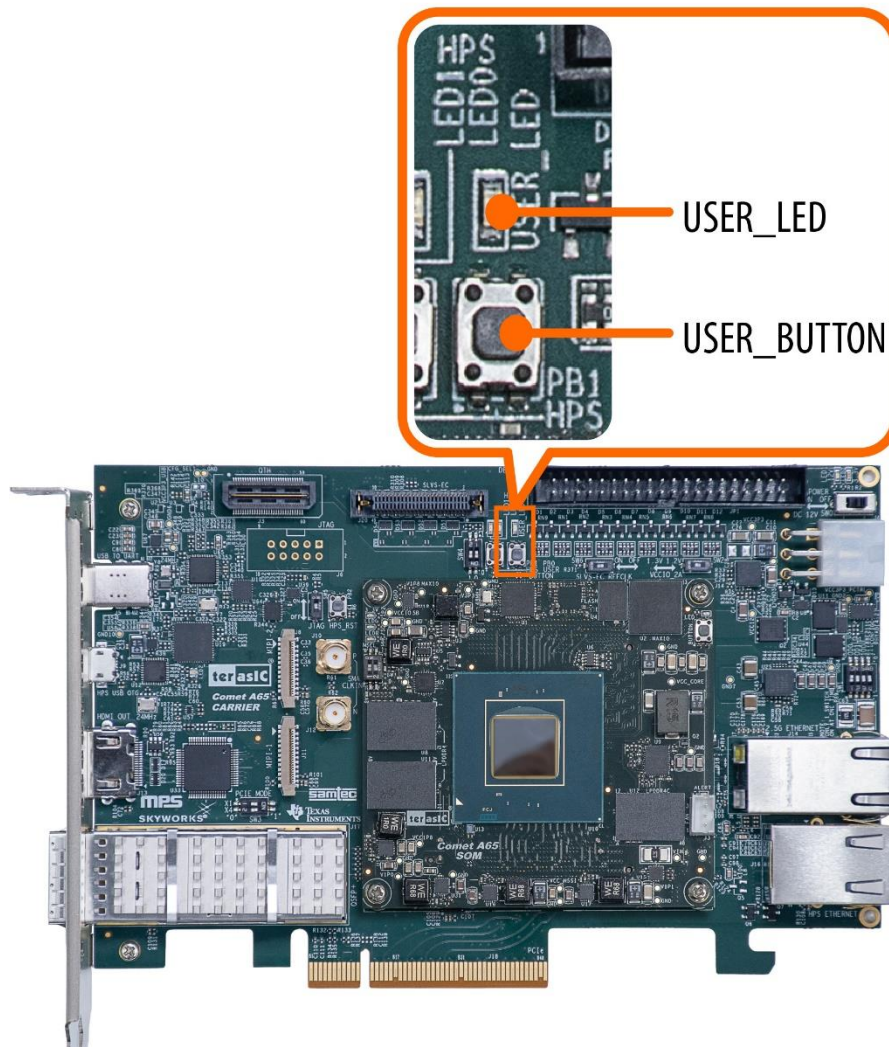

Figure 2-28 Location of the User Button and LED on the Comet A65 EVK board
5. Press **USER_BUTTON** (see **Figure 2-28**) to start LPDDR4 write & loopback verify process. It will take about 1 second to perform the test.